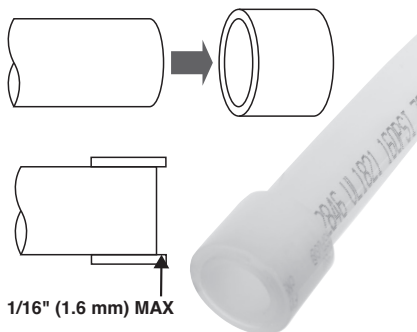

Figure 5 – Inserting Tubing Into The Reinforcing Ring
1. Prepare the connection according to the fitting system manufacturer's instructions. The tubing end should be cut cleanly and squarely. Fully insert the tubing into the reinforcing ring until it butts against the ring stop. If the ring does not have a stop, ring should be flush up to 1/16" (1.6 mm) with the tube end, see Figure 5. There